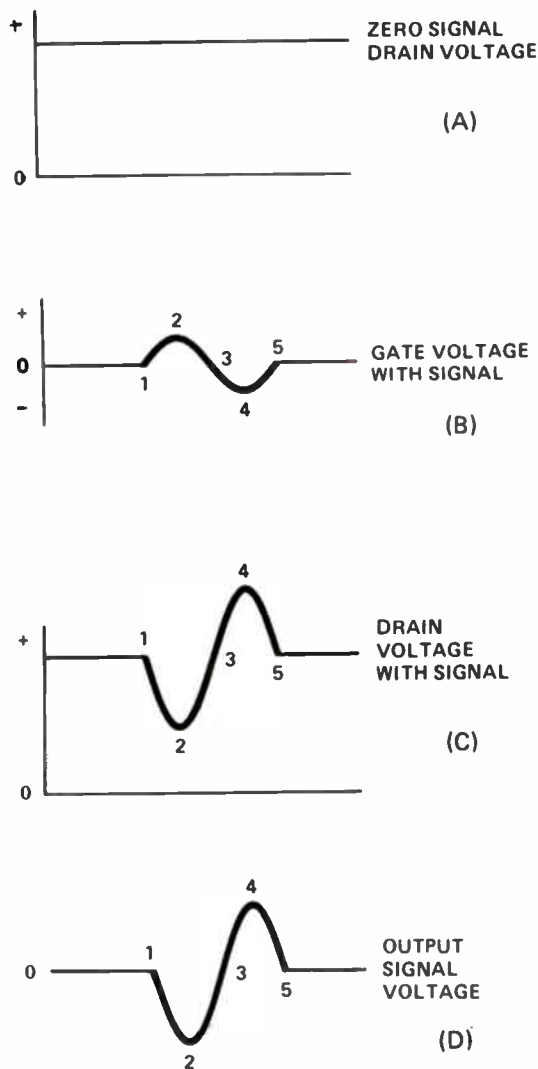
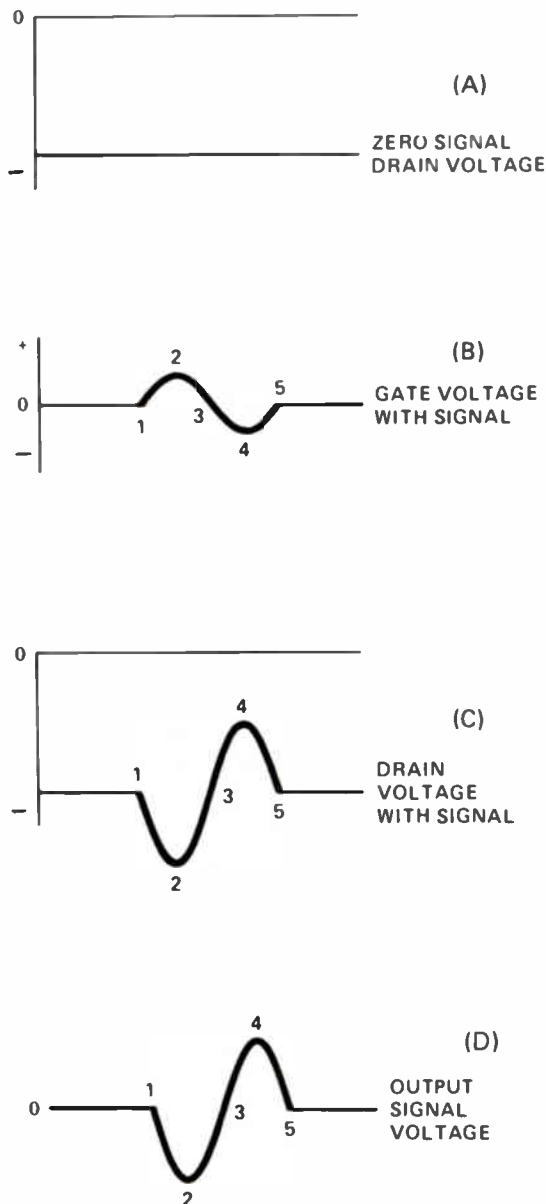

Figure 22. Waveform for the circuit in Fig.21.
Figure 24. Waveforms for circuit shown in Fig 23.
The waveforms in Fig.22 show how the circuit works. With zero input signal the drain voltage is constant, as shown in Fig.22(A). Figure 22(B) shows what happens when a signal is applied to the gate. With zero signal, the gate voltage is
Figure 22(C) shows what happens to the voltage between the drain and ground. When the gate voltage swings in a positive direction it reduces the negative bias between the gate and channel, permitting the channel to widen. This widening reduces the resistance of the channel. Current through the JFET increases so the voltage drop across R3 increases. When this happens, the net voltage between the drain of the JFET and ground decreases as shown from point 1 to point 2 and then back to point 3.
During the next half-cycle, when the input signal swings negative, it increases the net negative bias between the gate and the channel. This causes the channel width to decrease, effectively increasing the resistance of the channel. As a result, the current through the JFET decreases, causing the voltage drop across R3 to decrease. When this happens, the voltage between the drain and ground swings positive, as shown between points 3, 4, and 5 in Fig.22(C).
Any amplified signal appearing at the output on the drain of the JFET takes the form of an amplified ac signal superimposed on the dc drain voltage. At the output, on the other side of the blocking capacitor C3, we have the waveform shown in Fig.22(D). Here the dc is blocked so that the signal appears as an amplified signal.
The waveforms in Fig.24, on the next page, show what happens when the signal is applied to the input. With zero signal, the voltage between the drain and ground is constant and negative, as shown in Fig.24(A). Figure 24(B) shows that the gate voltage is constant and zero until a signal is applied to the input. When the input signal swings in a positive direction from point 1 to point 2 and then back to zero voltage at point 3, it increases the positive voltage on the gate. The increased voltage adds to the voltage across R1, making the gate more positive. This repels the holes into a narrower channel so the resistance of the channel in the JFET increases. This reduces the number of holes traveling from the source to the drain so the number of electrons leaving the negative terminal of the battery and flowing through R3 to fill the holes arriving at the drain decreases. When this happens, the voltage drop across R3 decreases so the voltage between the drain and ground increases. In other words, the drain becomes more negative. This is shown in Fig.24(C) as the drain voltage swings from zero signal voltage at point 1 to a more negative level at point 2, and then back to zero at point 3.
through the channel from the source to the drain. The increase in the number of holes arriving at the drain results in an increase in the number of electrons leaving the negative terminal of the battery and flowing through R3 to fill the holes that reach the drain. The increased current through R3 results in a greater voltage drop across R3. The drain voltage becomes less negative as the drain voltage swings from point 3 to a minimum at point 4 and then back again to zero signal level at point 5, as shown in Fig.24(C).
Figure 24(D) shows the output signal once the dc voltage at the drain has been removed by the blocking capacitor C3. Compare this with Fig.22(D) and you see that the two are identical. In the p-channel JFET we have a voltage gain because the output signal is greater than the input signal. We also see that the output signal voltage is 180° out of phase with the input signal voltage.